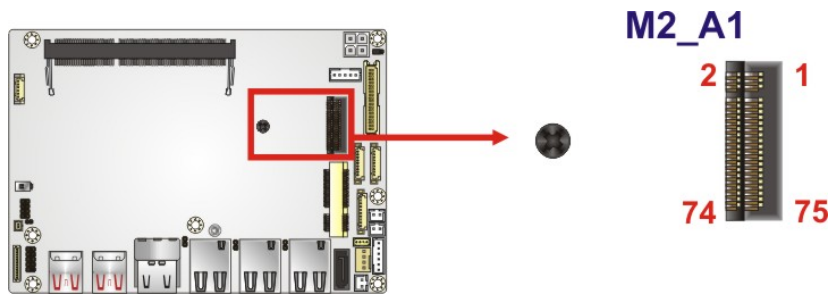

Figure 3-10: M.2 A-key Slot Location
- CN Location:** See **Figure 3-10**